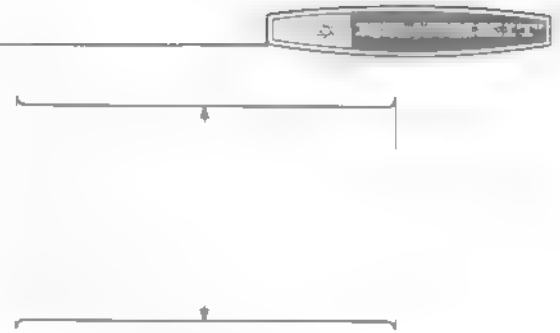

Figure 11B
- () Refer to Figure 11B and adjust the Generator's Trace control and the Oscilloscope's vertical positioning control until the waveform fills the area between the bottom and top lines on the screen graticule. NOTE: If your oscilloscope does not have a graticule or lines on the screen, use a grease pencil and mark a line on the screen at the top and bottom of the waveform.